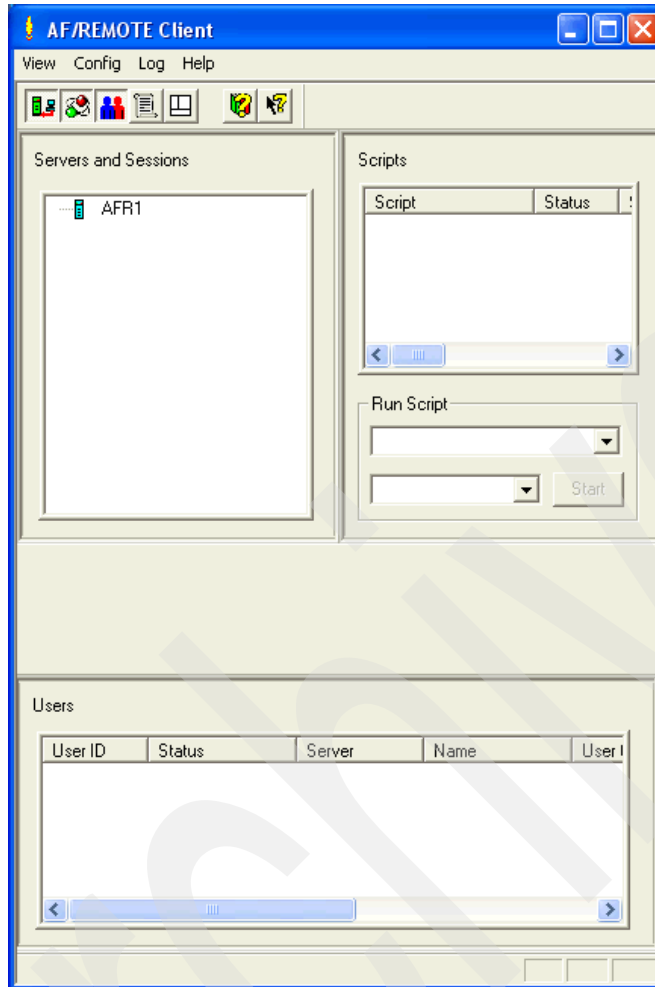

Figure F-2 AF/REMOTE client panel - part 1
window focus is transferred to the copy of the AF/REMOTE client program that is already executing (see Figure F-2 on page 135). To enable this feature, uncomment the following entry in the AF/REMOTE client profile (rpcliprf.txt):
3. The AF/REMOTE client control panel is displayed (Figure F-2).
**Note:** The name that appears in the Servers and Sessions pane of the AF/REMOTE Client control panel has not changed (see Figure F-2 on page 135).